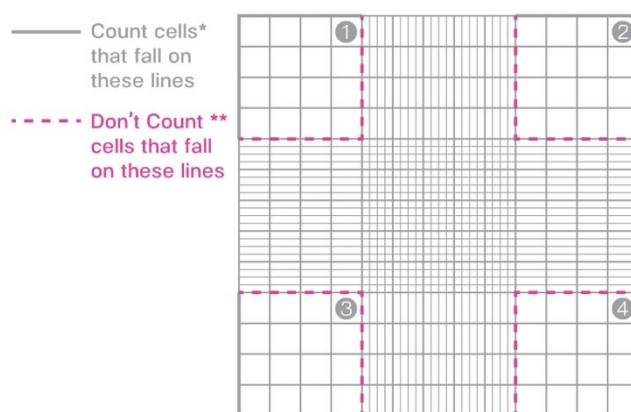

Figure 8: Manual hemocytometer
13. Mix the counting solution thoroughly and count cells using a manual hemocytometer. (see Figure 8 below)